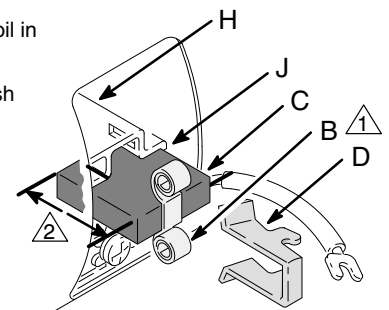

Fig. 14 01227
6. Install the new brush (C) so its electrical lead is in the long slot (K) of the brush holder (H). Slide the terminal of the brush's electrical lead (E) under the washer of the screw (F). Make sure the motor's electrical lead (G) is still connected to the screw. Tighten the screw (F). See Fig. 14.
7. Place the spring (B) on the brush (C) as shown in Fig. 14.
8. Push in the clip (D) and hook it. See Fig. 14.
- a. Remove the connecting rod pin (20) only. See page 36.